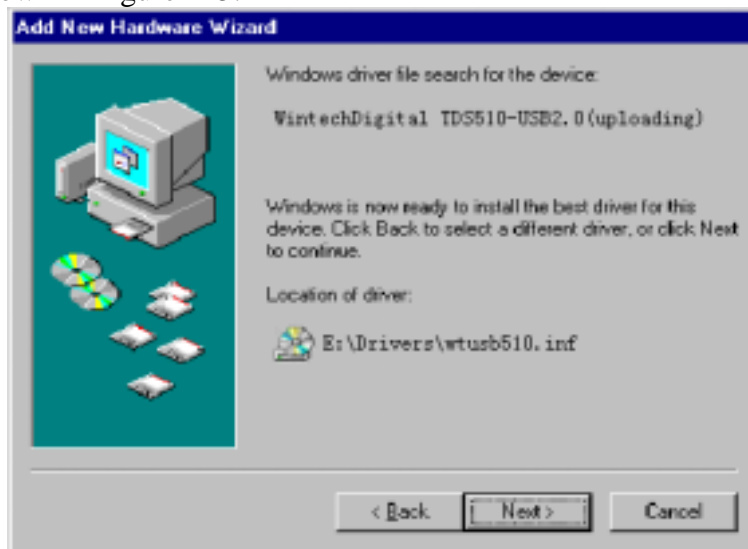

Figure B-5
5. Click on OK and the wizard will display the driver to be installed, as shown in Figure B-5.